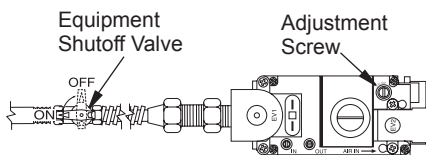

Figure 37 - Turning Equipment Shutoff Valve to the OFF Position
6. Turn equipment shutoff valve clockwise to the OFF position (see Figure 37). Do not force.
7. Wait five (5) minutes to clear out any gas. Then smell for gas, including near the floor. If you smell gas, STOP! Follow "B" in the safety information, above. If you don't smell gas, go to the next step.
- Turn adjustment screw marked PILOT clockwise to decrease or counterclockwise to increase the flame to proper size (see Figure 37, page 19). Do not remove adjustment screw.